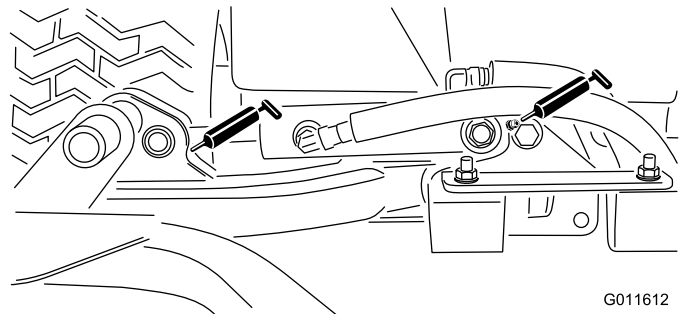

Figure 47
- Cutting unit lift-arm cylinders (2 each)—Figure 47
- Lift-arm pivots (1 each)—Figure 47